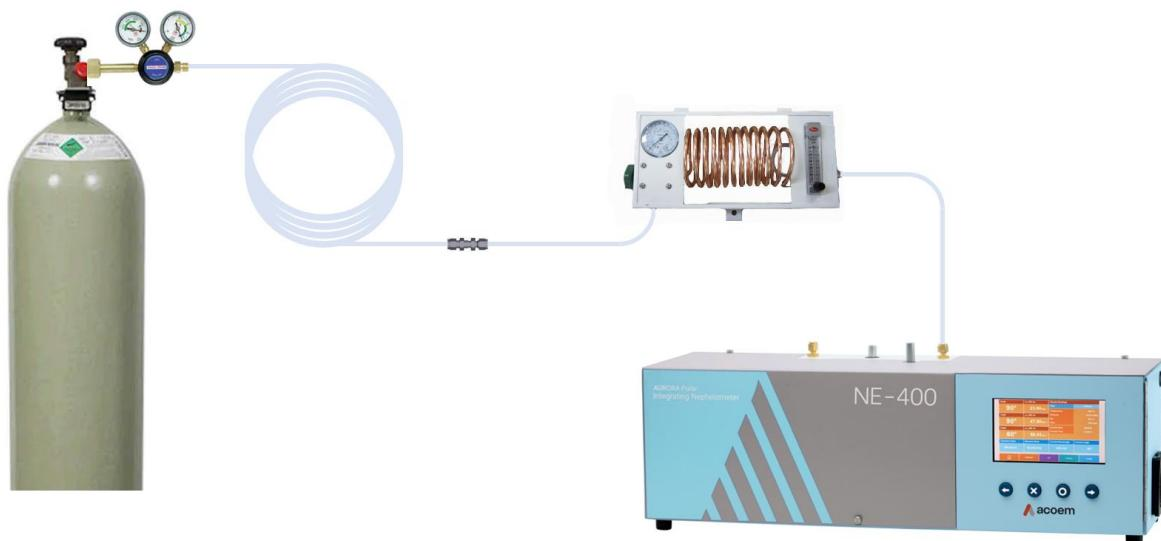

Figure 171 – Gas Delivery System
- Navigate to the Config page and then to the Hardware child page. Ensure the flow settings on the Installed Options panel are set as per refer to in Figure 171**Error! Reference source not found..**